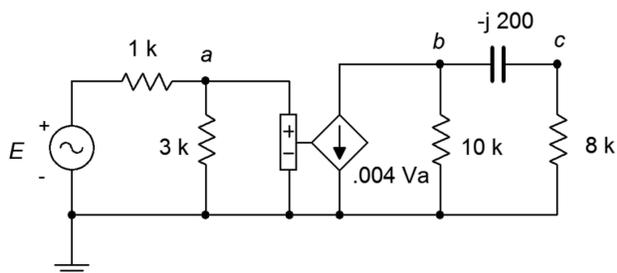

Figure 5.18
35. In the circuit of Figure 5.18, determine  $v_c$  if the source  $E = 8\angle 90^\circ$ .
36. In the circuit of Figure 5.18, determine the capacitor current if the source  $E = 12\angle 0^\circ$ .